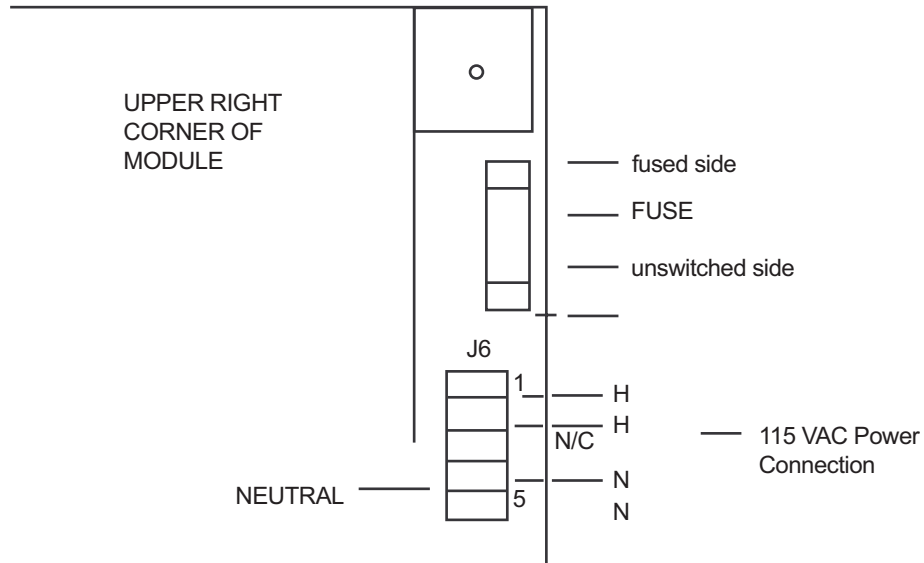

Figure 7 AC Power Connection To Modules
All of the modules are powered from 115 VAC 50/60hz Control Power except the CLD and the IPCB, which are powered by 24 VAC. This power is provided by either a control power transformer or is customer supplied. With the exception of the CLD, LCI-C and the IPCB modules, the other modules have incoming power connected to the upper-most terminal on the right hand side of the module, just below the fuse. The terminal is arranged with two hot pins (1 and 2), a keying pin (3), and two neutral pins (4 and 5), for ease of “daisy chaining” power from one module to another. Incoming power can be verified by measuring the voltage between the fuse bottom (hot side) and the connector's neutral (pins 4 or 5). The voltage should read between 97.8 to 132.2 volts AC rms. Refer to Figure 7. (The $\pm 15\%$ voltage criteria is most important for the EXV module's operation, as the Electronic Expansion Valve's available torque is directly related to this value).